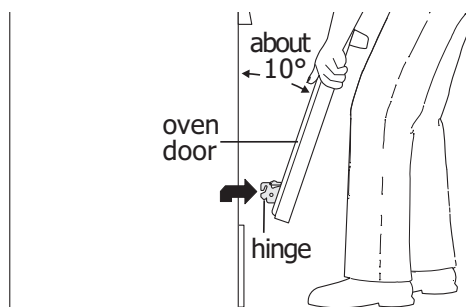
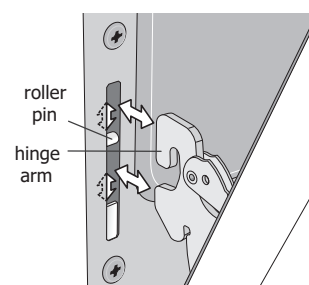

Figure 9: Holding door for removal
Figure 10: Replacement and location of hinge arm and roller pin
3. Firmly grasp both sides of oven door along the door sides. Do not use the oven door handle (See Figure 9).
4. Close the door to approximately 10 degrees from the door frame (See Figure 9).
5. Lift the oven door hinge arms over the roller pins located on each side of the oven frame (See Figure 10).
1. Firmly grasp both sides of oven door along the door sides. Do not use the oven door handle (See Figure 9).
2. Holding the oven door at the same angle as the removal position, seat the hook of the hinge arm over the roller pins located on each side of the oven door frame (See Figure 9 and Figure 10). The hook of the hinge arms must be fully seated onto the roller pins.